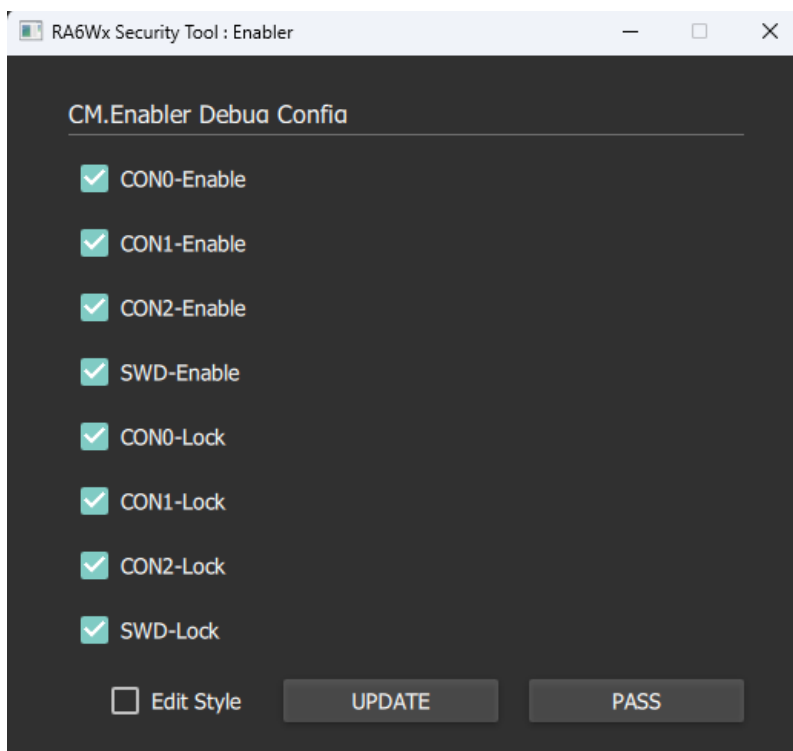

Figure 22. Secure Production – debug config selection
- In the **Enabler** window (Figure 22), click **Update**.